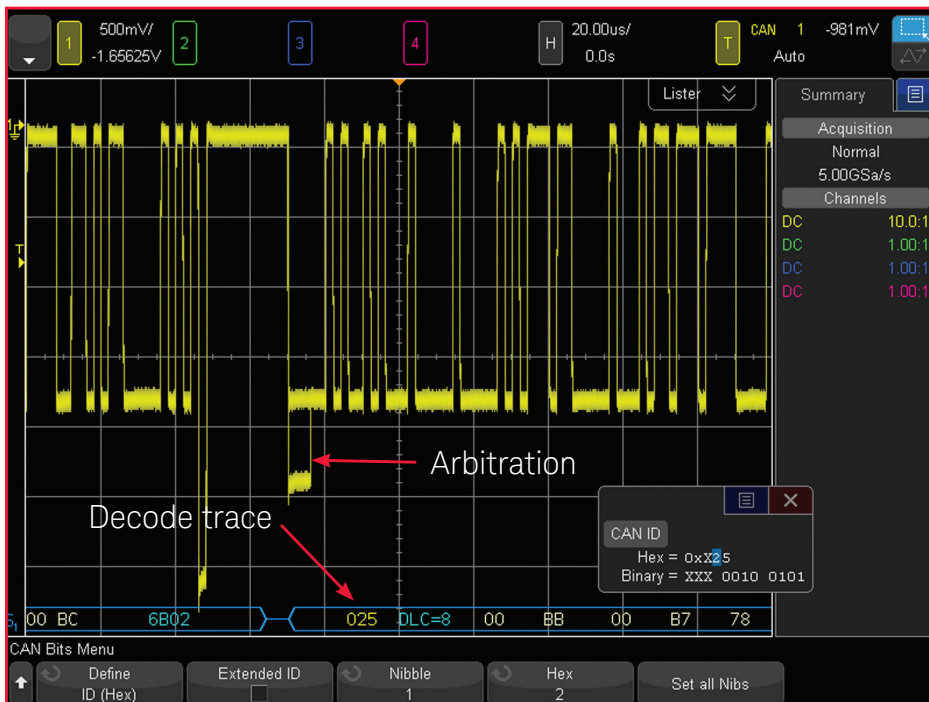

Figure 10. Triggering on a serial CAN frame that sometimes includes arbitration.
As mentioned earlier, Zone Trigger can be used in conjunction with more complex triggering, including serial bus triggering. Figure 10 shows an example of the scope triggering on a Controller Area Network (CAN) bus data frame with an ID equal to 025_{HEX}. Note that you can observe the time-correlated decode trace near the bottom of the scope's display, which begins with the frame ID (025).
In Figure 10 we can see that the first pulse in frame 025_{HEX} exhibits two different low-level amplitudes; sometimes it's low — and sometimes it's lower. When the signal goes to the lowest level, this is evidence that two nodes are attempting to transmit data at the same time and arbitration begins. When this pulse pops back up, this indicates that the arbitration process has finished and frame 025_{HEX} won the priority battle.